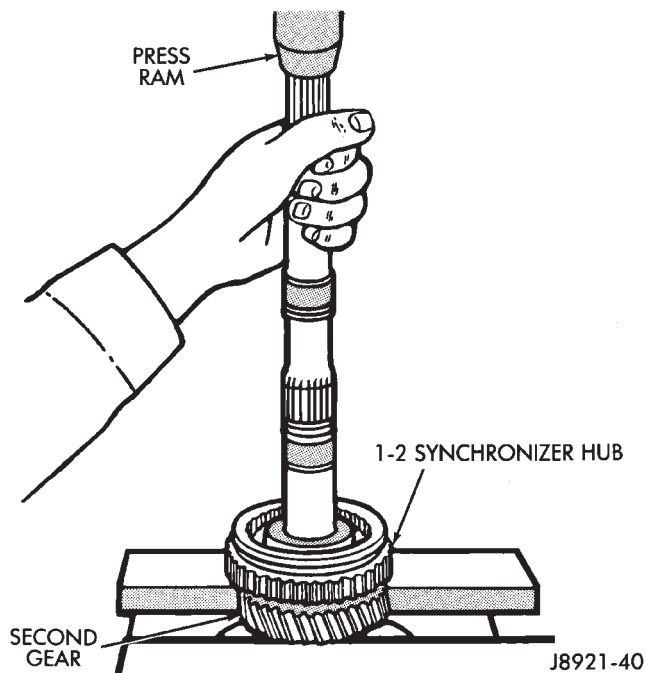

Fig. 105 Remove Second Gear, Reverse Gear, And 1-2 Synchronizer
(7) Remove first gear synchronizer ring.
(8) Using Bearing Splitter P-334 or suitable press plates positioned under second gear, press 1-2 synchronizer, reverse gear, and second gear from output shaft (Fig. 105).